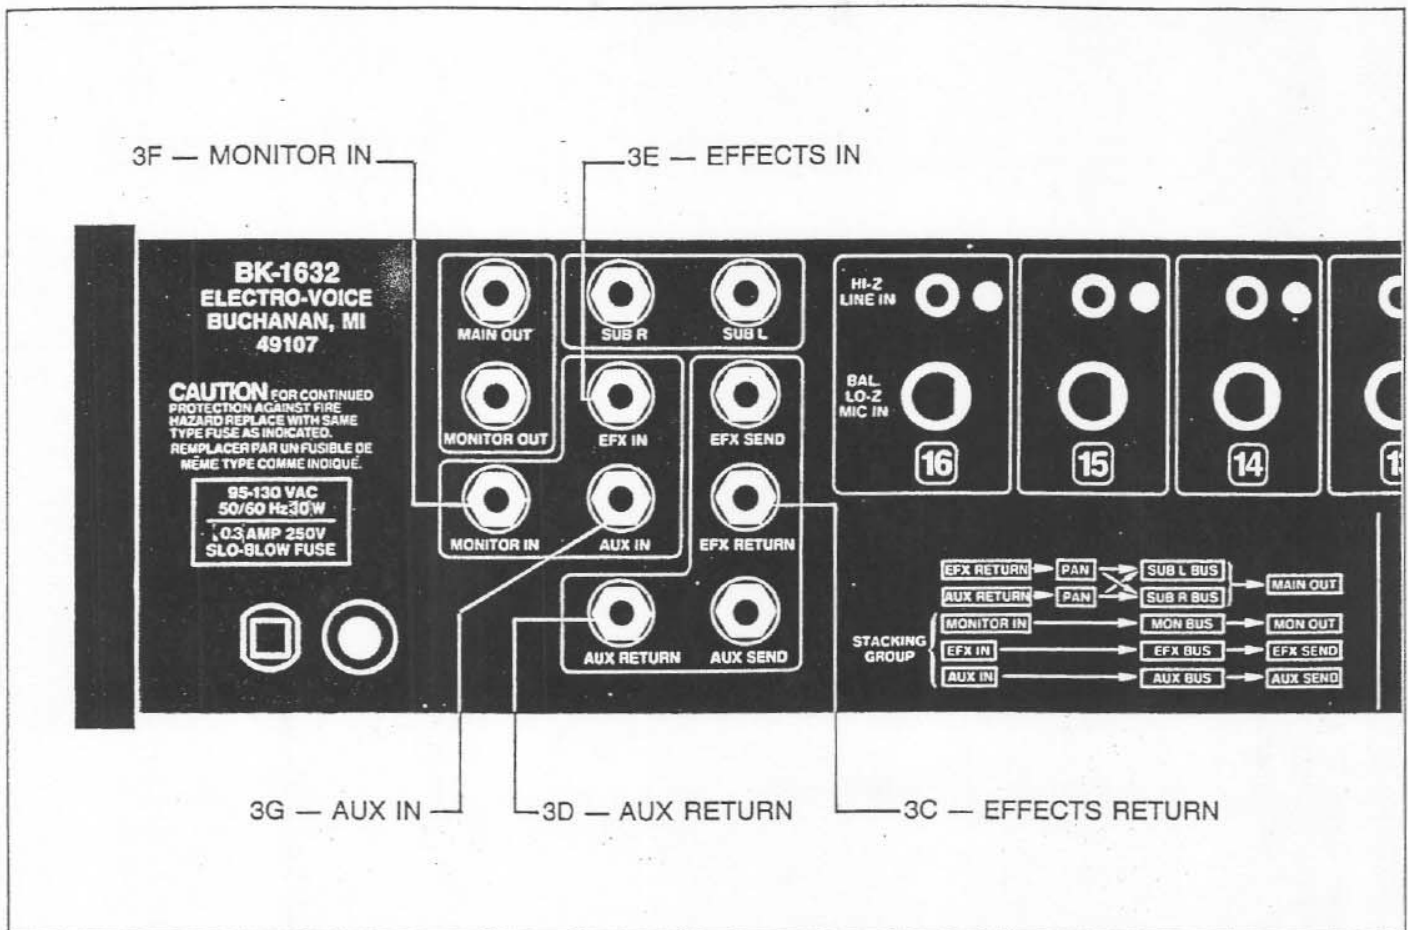

FIGURE 3 — Input Jacks
3.0 REAR PANEL INPUT CONNECTORS (Figure 3)